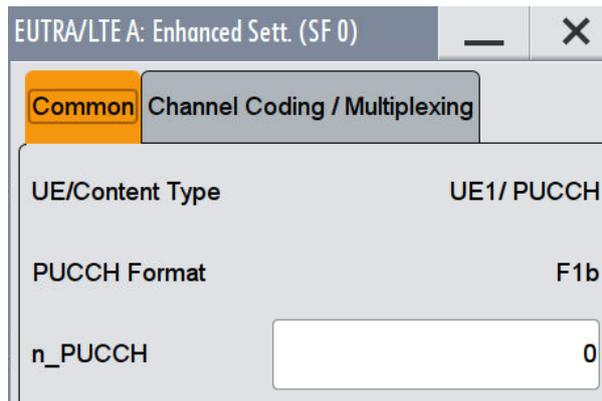

Fig. 3-116: Set the parameter n_PUCCH to 0
8. Set the resource index **n_PUCCH** to 0. (Fig. 3-116)